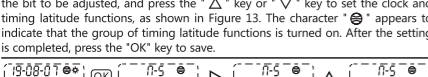

Figure 13 LCD display (set the first group to power on)
3.2.2.6.1 Press the "▽" key, the "16 ON" character flashes, and press the "OK" key to enter the timing setting state (1 ON, first turn on). Press the "▷" key to select the bit to be adjusted, and press the "△" key or "▽" key to set the clock and timing latitude functions, as shown in Figure 13. The character "⊕" appears to indicate that the group of timing latitude functions is turned on. After the setting is completed, press the "OK" key to save.